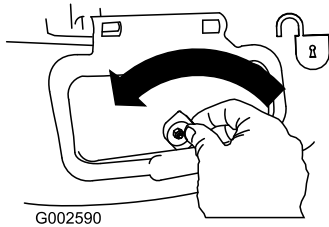

Figure 27
1. Unlock the side discharge door (Figure 27).